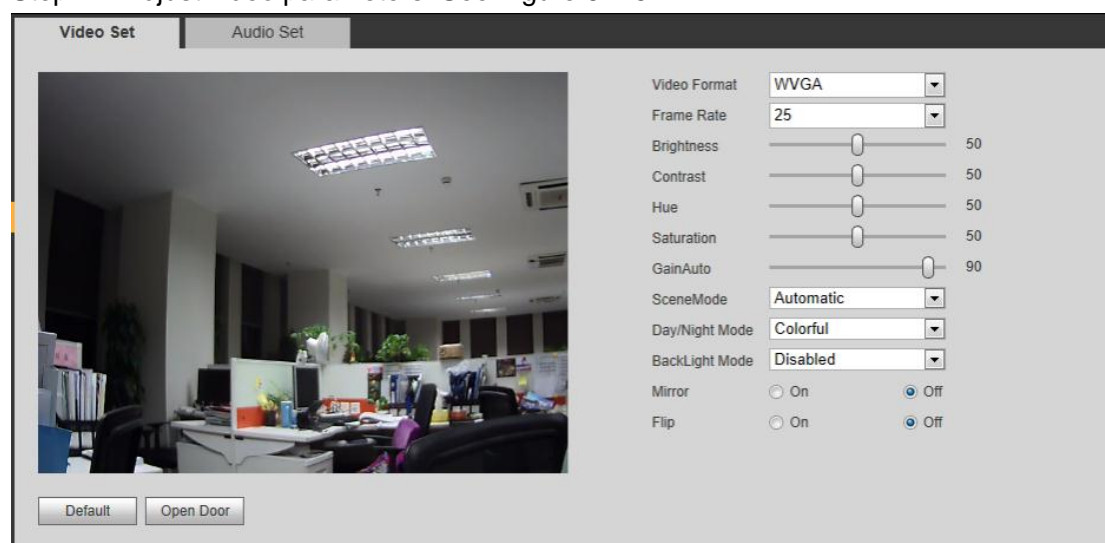

Figure 6- 15
Step 2. Adjust video parameters. See Figure 6- 15.